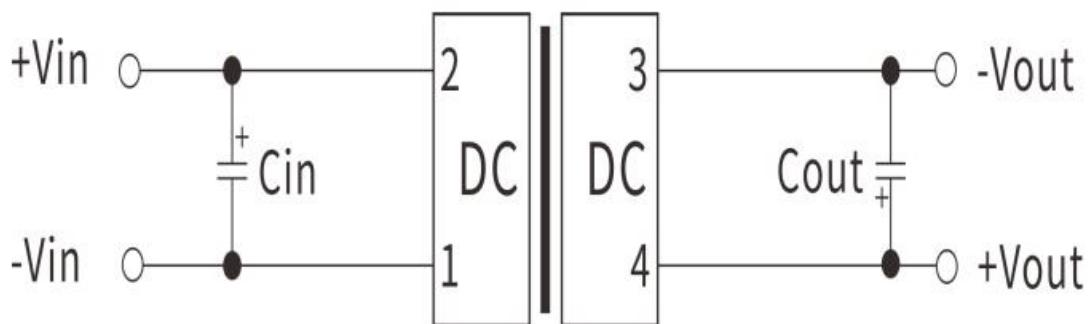

Figure 1
- If it is required to further reduce the input and output ripple, a capacitor filtering network can be connected to the input and output ends, the applied circuit as showed on figure 1. However, it should be careful to select a suitable filter capacitor. If the capacitance is too large, it may cause start-up problems. For each output, under the conditions of ensuring safe and reliable operation
2. One recommended circuit: For applications where ripple and noise requirements are normal, a filter capacitor can be connected in parallel at the input and output ends. The external circuit is shown in the following figure1 with the recommended value details of the filter capacitor. Output load requirements: Try to avoid no-load use. When the actual power consumption of the load is less than 10% of the rated output power of the module or there is no-load phenomenon, it is recommended that a dummy load be connected to the output end. The dummy load (resistance) can be calculated by 5~10% of the rated power of the module, resistance value = $U_{out} / (1W * 10\%)$.